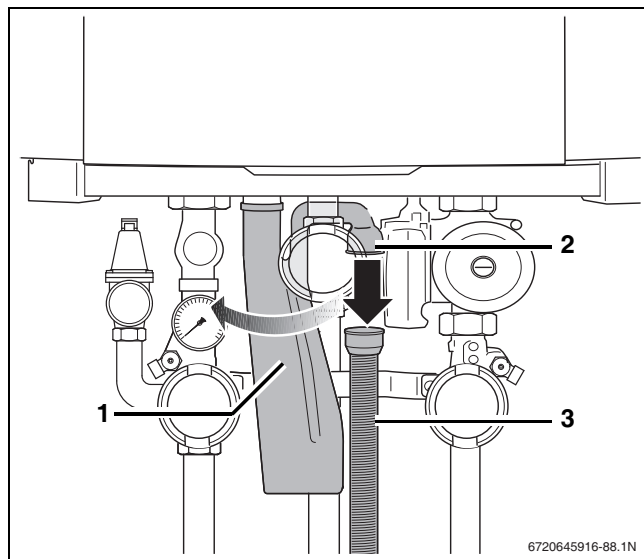

Fig. 90 Disconnecting the condensate trap hose
- ▶ Turn the condensate trap a quarter rotation counterclockwise (→ fig. 90).